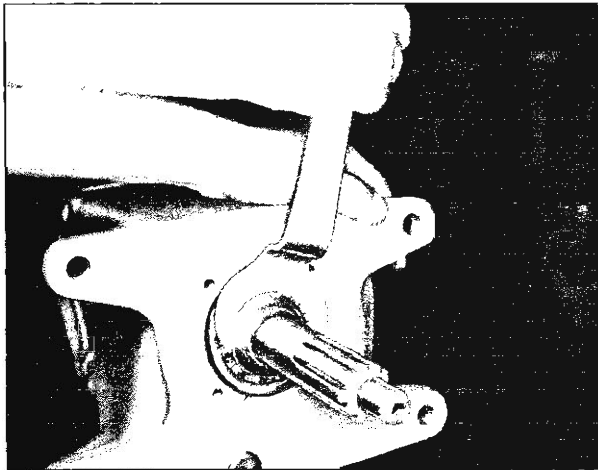

Fig. 6M—Removing Main Drive Gear Retaining Nut
3. Remove the main drive gear retaining nut (fig. 6M) using Tool J-0933, after locking up transmission by shifting into two gears.